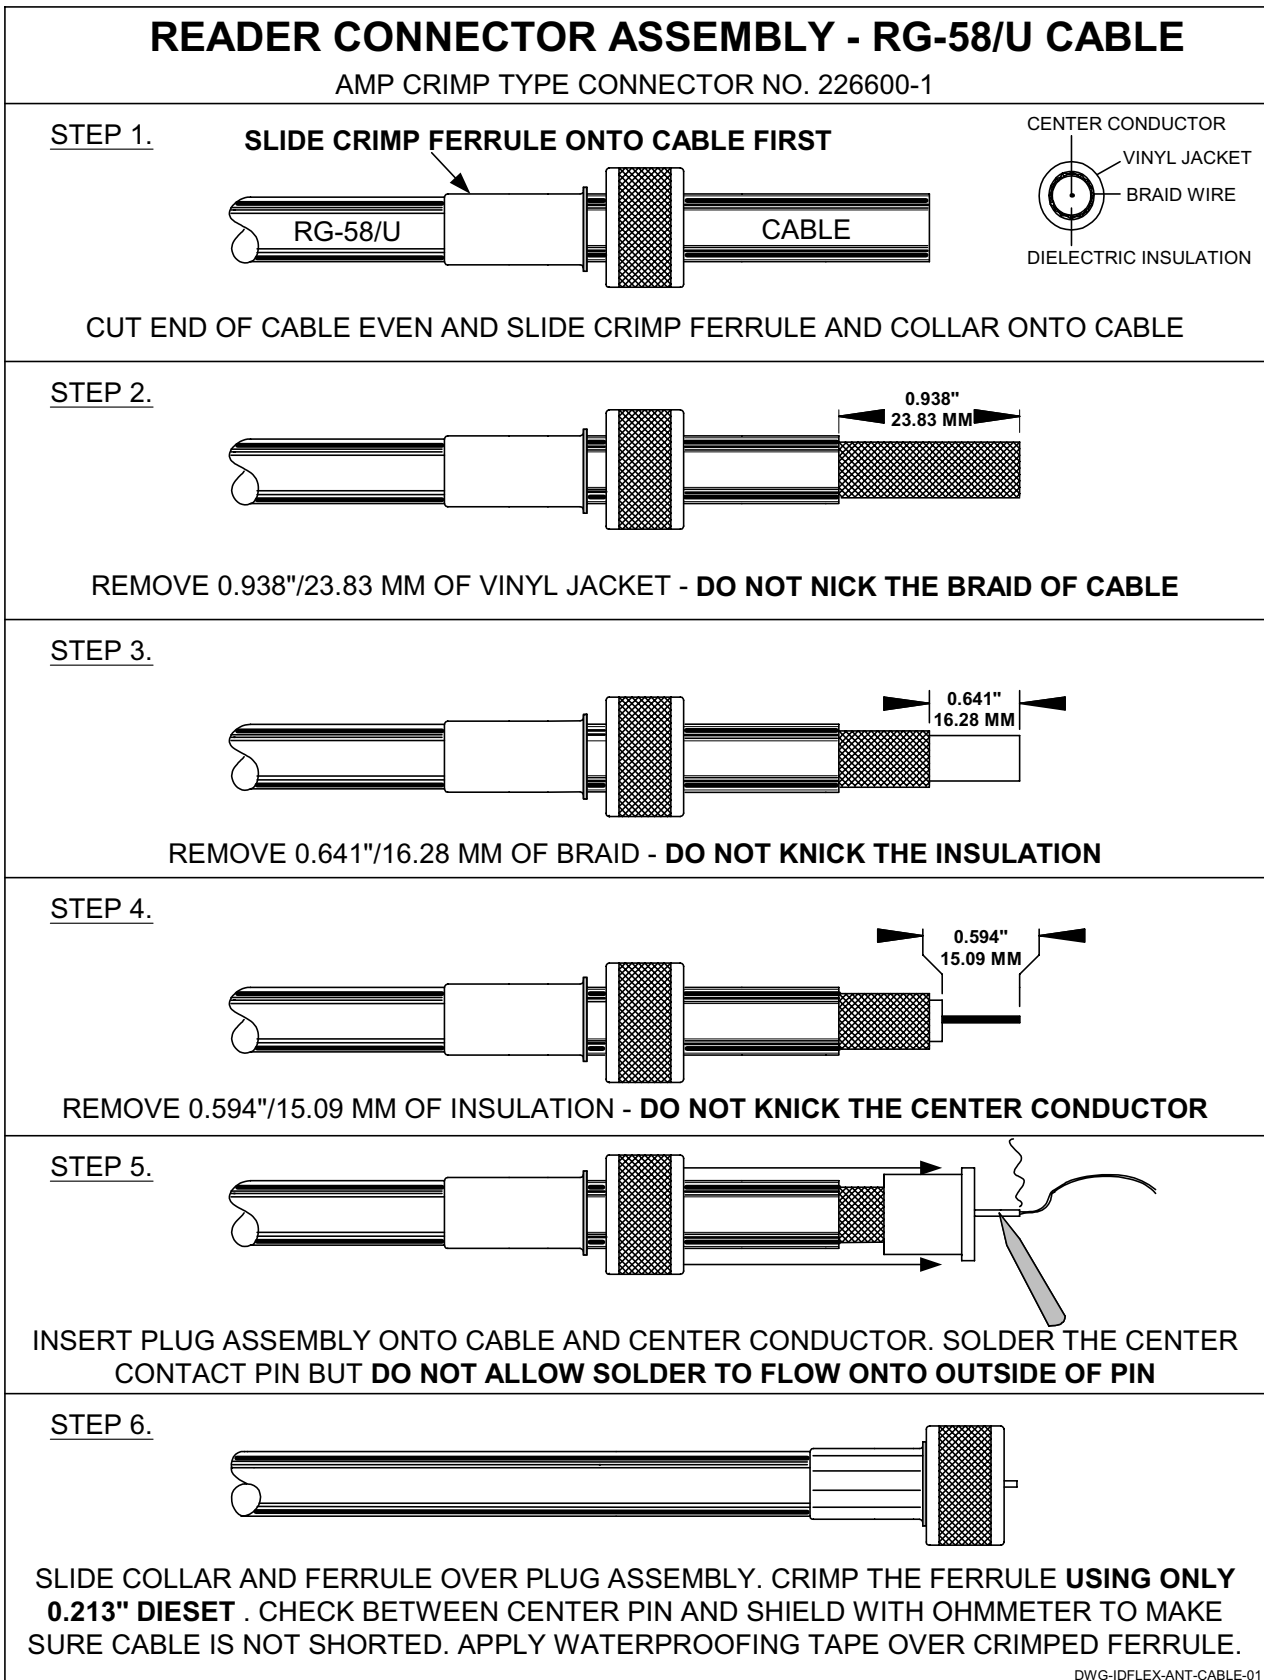
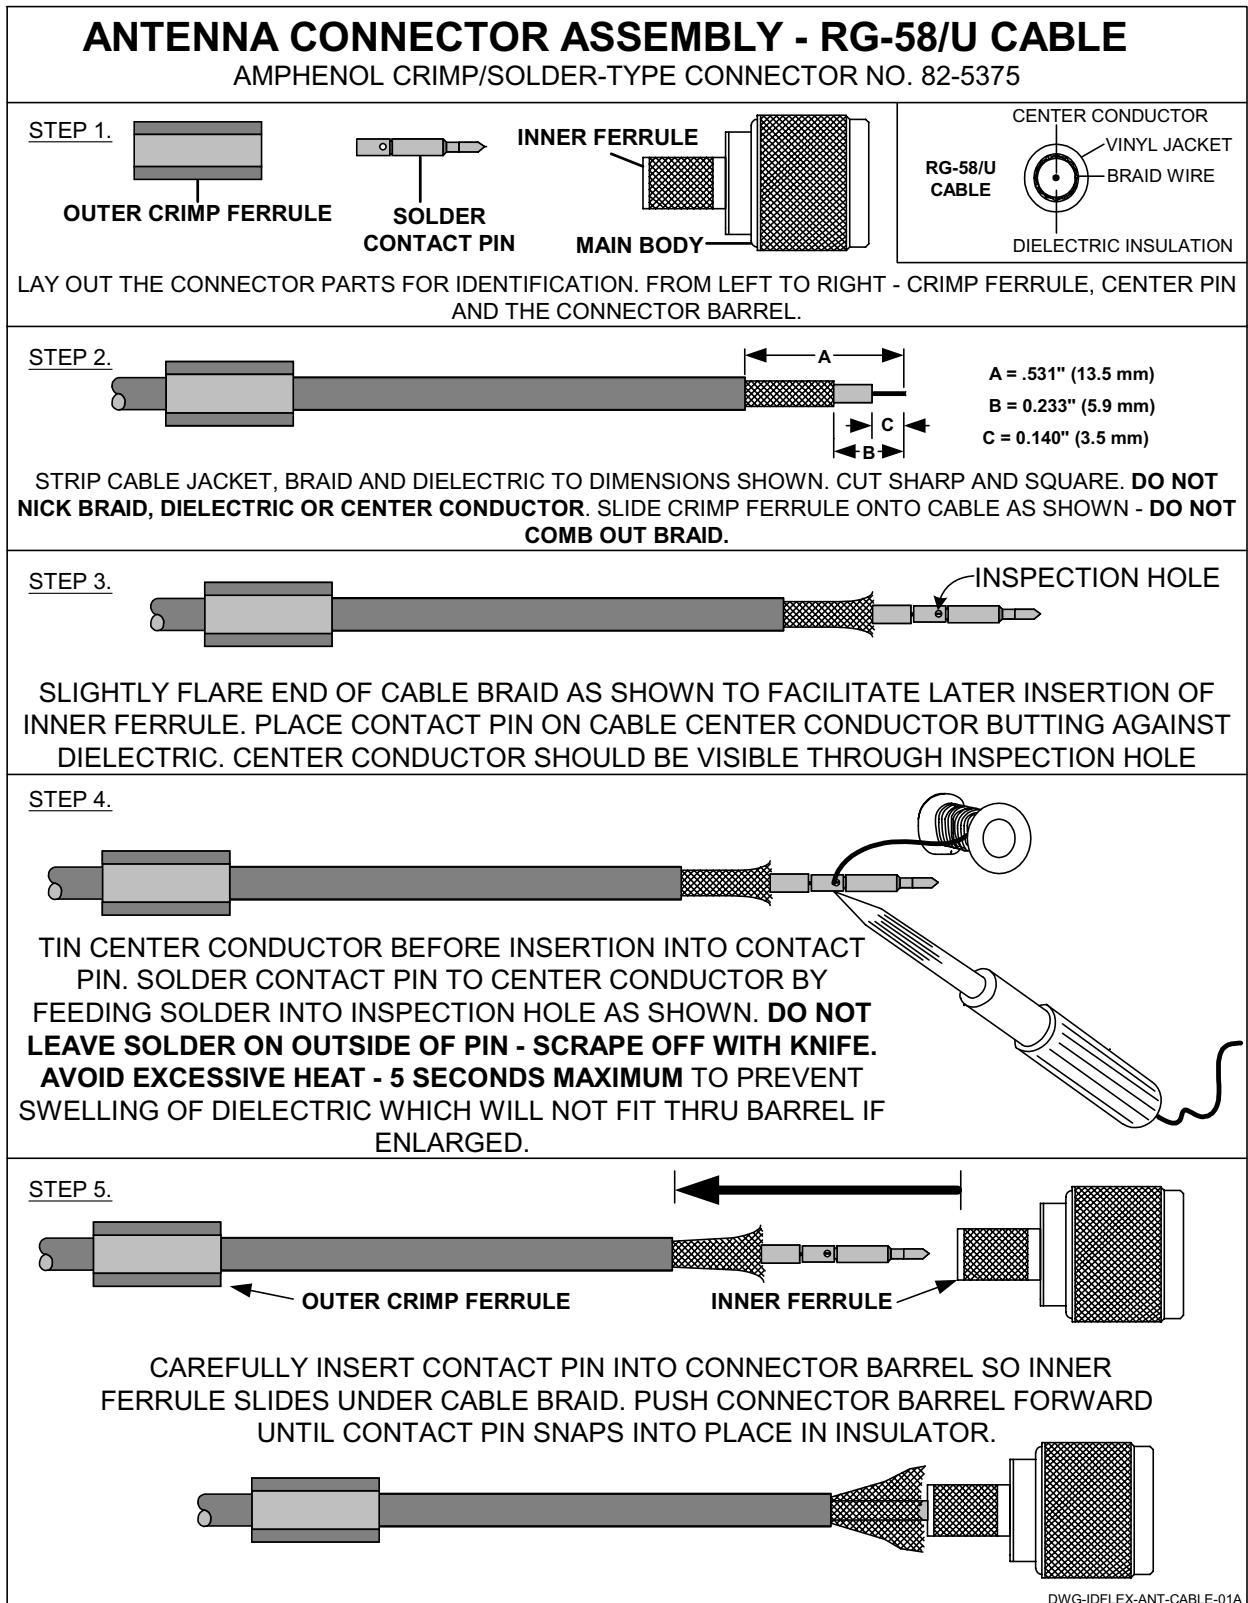

Figure 3.6 – RG-58/U Amp 226600-1 Installation
Figure 3.7 – RG-58U Amphenol 82-5375 Installation (Part A)
For Belden 8240, RG-58/U cable installers will need to provide connectors. Each antenna requires (2) Amphenol 82-5375 and (2) AMP 226600-1 or SIRIT can provide this as an option by quoting part # IDFLEX-CONN-RG-58/U. Figure 3.6 , Figure 3.7 and Figure 3.8 detail installation of the connectors for RG-58/U cable starting on page 29.